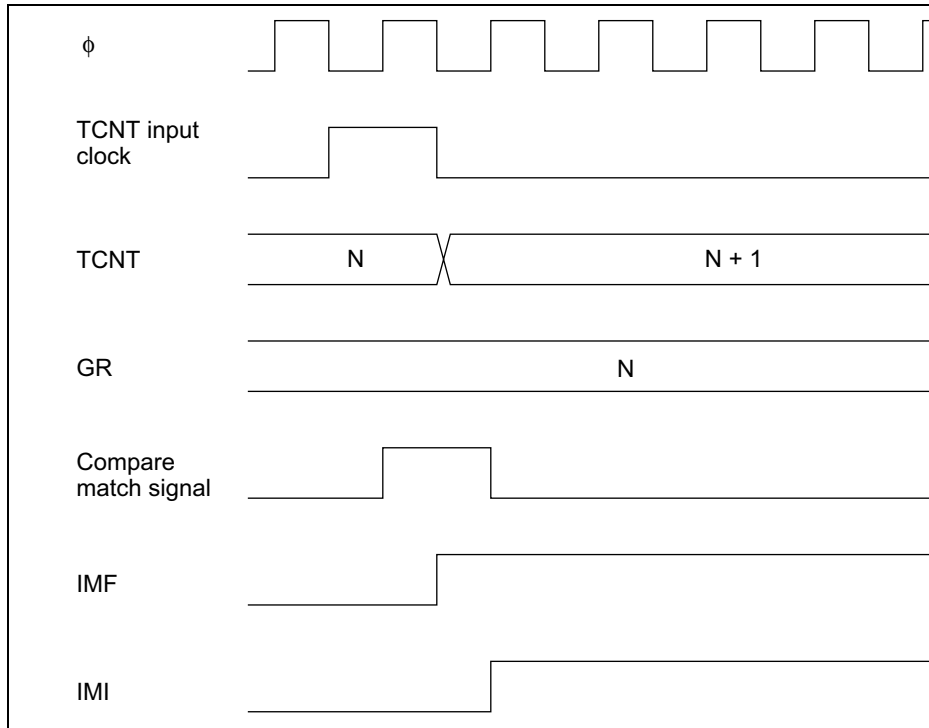

Figure 10.57 Timing of Setting of IMFA and IMFB by Compare Match
IMFA and IMFB are set to 1 by a compare match signal generated when TCNT matches a general register (GR). The compare match signal is generated in the last state in which the value matches (when TCNT is updated from the matching count to the next count). Therefore, when TCNT matches a general register, the compare match signal is not generated until the next timer input. Figure 10.57 shows the timing of the setting of IMFA and IMFB.